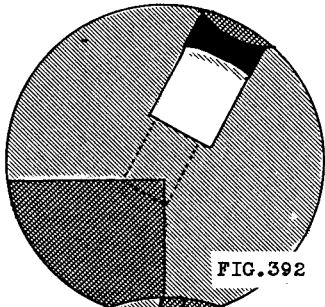

FIG. 392
2. Adjust the work and the table with the cross-feed hand crank until the tool is directly opposite the edge to be cut (Fig. 392).